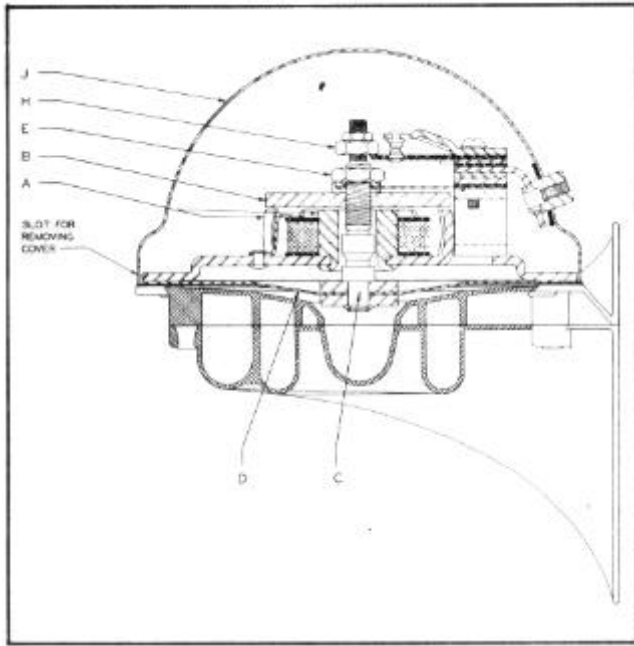

FIGURE 29
**NOTE: It is advisable to have only one horn connected when the following adjustment is being made. Remove the wire at the horn relay from the horn not being adjusted. Proceed in this manner with each horn, and after each horn has been tested, connect both to relay and sound together, then replace cover "J", Figure 29.**
1. Remove cover (J) by inserting a screw driver in opening provided at edge of cover.
2. With car engine running at proper RPM to deliver the maximum charging rate, loosen the lock nut and turn the adjusting nut (H) up or down until the desired tone is obtained.
3. After adjustment is made, be sure to tighten lock nut against the adjusting nut (H).